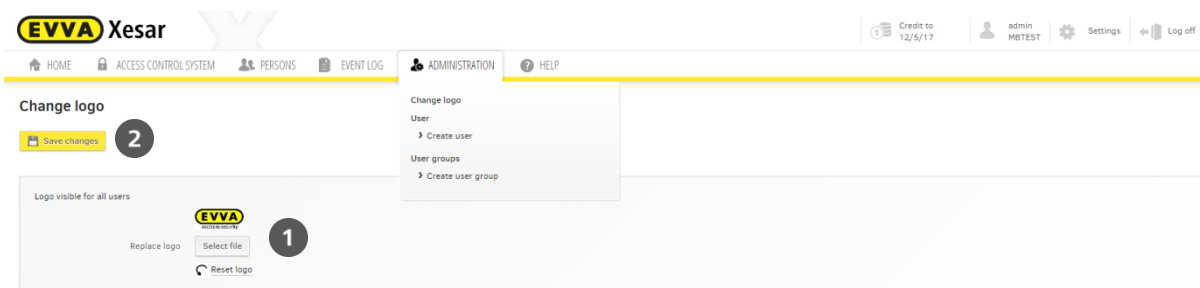

Figure 56: Changing the client logo
- **Select file ❶** (Figure 56: Changing the)
- Click **Save changes ❷** (Figure 56: Changing the)